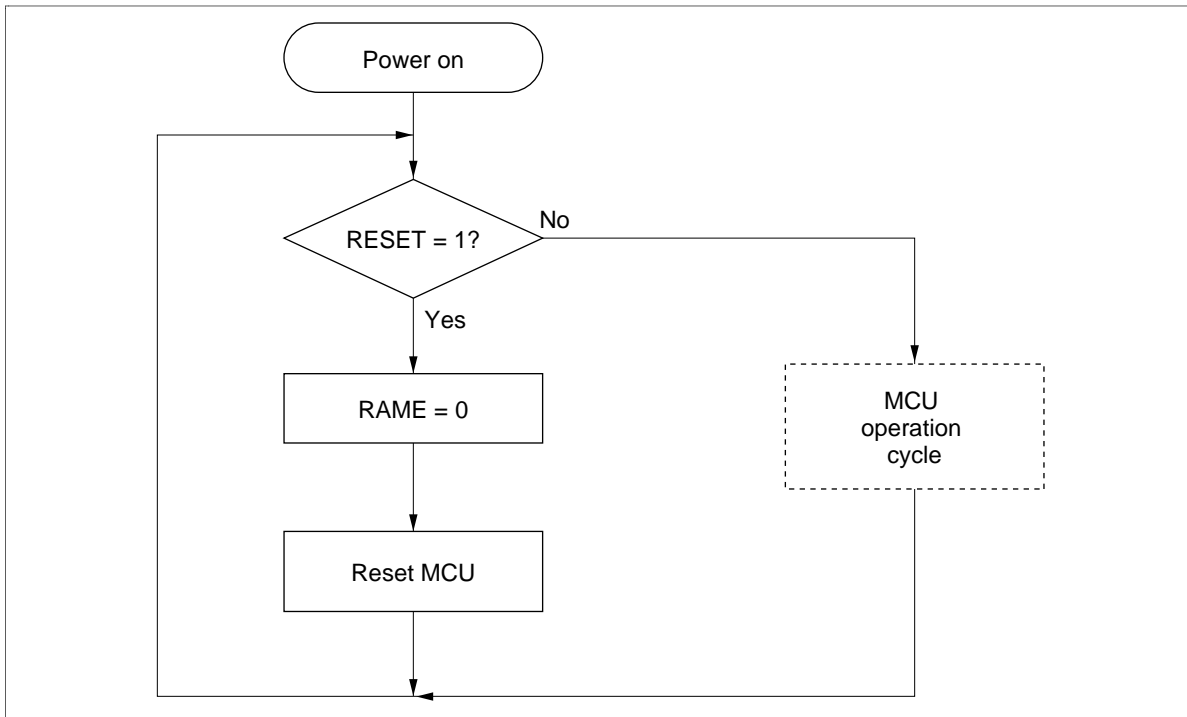

Figure 20 MCU Operating Sequence (Power On)
**MCU Operation Sequence:** See figures 20 to 22 for the MCU operation sequences. It is reset by an asynchronous RESET input, regardless of its status.